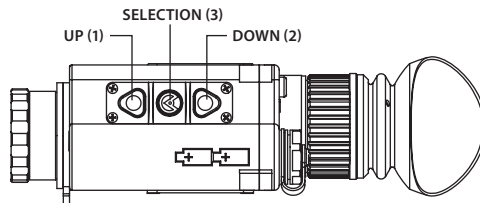

FIGURE 3-4. BUTTON CONTROL PANEL
The Prometheus-C button control panel is shown in Figure 3-4.
Table 3-2 contains the button functions and their brief descriptions. The ITEM NO. column of the table indicates the number used to identify buttons in Figure 3-4.
To display the MAIN MENU, hold down button (3) on the control panel (Figure 3-4).